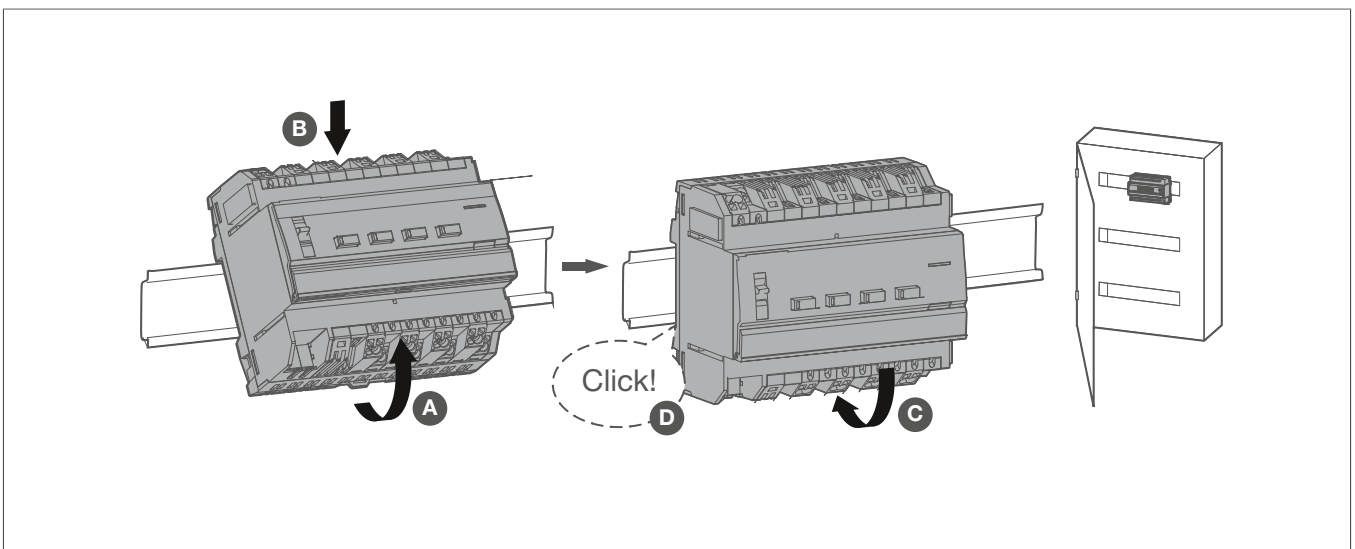

Fig. 5: Installing the device on the DIN rail
- Install the device on a TH 35 7.5–15 DIN rail according to IEC 60715:2017 / EN 60715:2017 (Fig. 5).